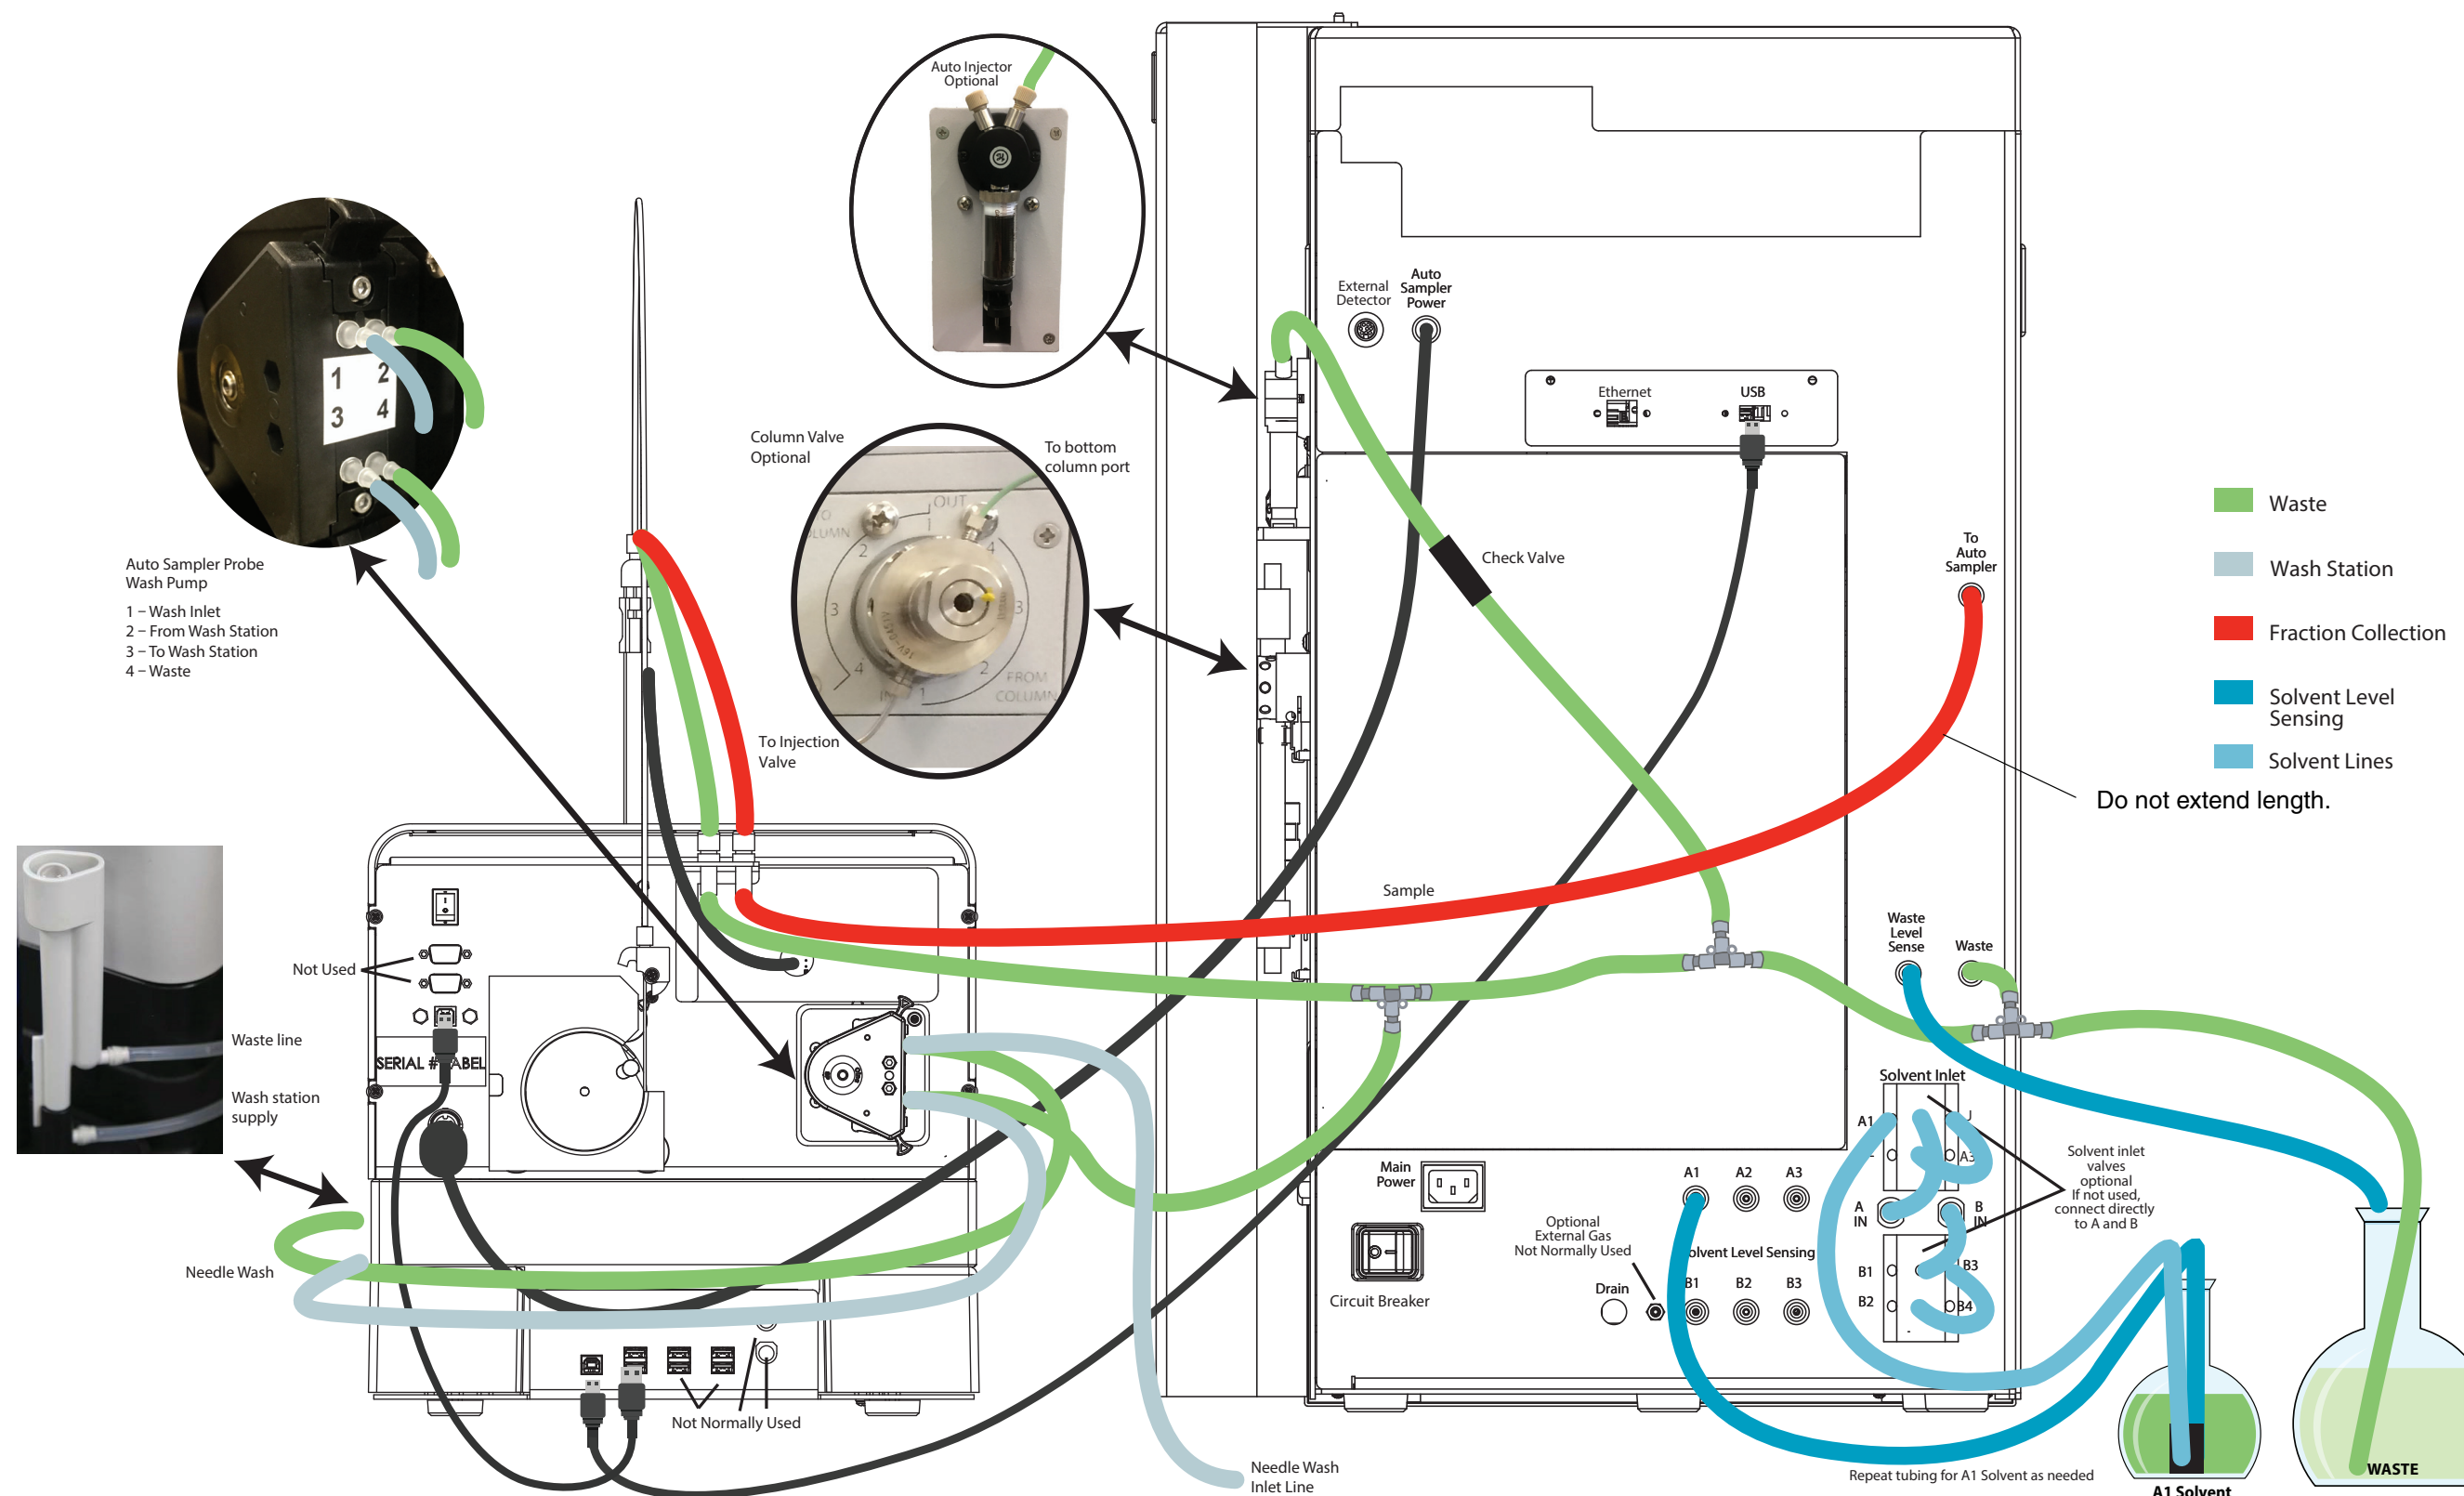

Figure A-1 Tubing diagram of the AutoSampler connected to the ACCQPrep
- A tubing diagram of the connections from the AutoSampler to the ACCQPrep (*Figure A-1*)